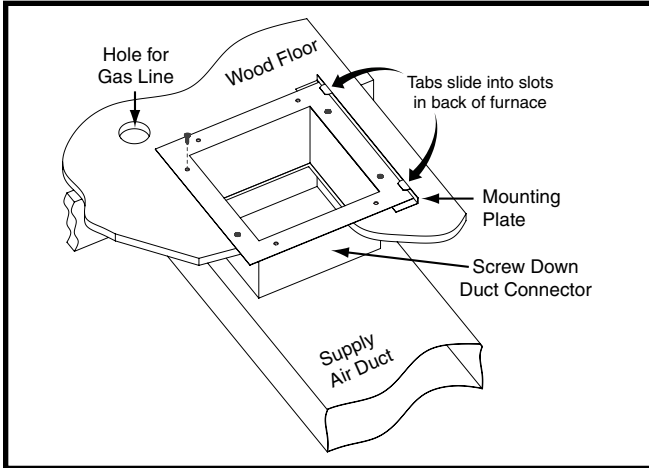

Figure 14. Screw-Down Duct Connector
1. Apply a bead of caulking, mastic, or other approved sealant around bottom side of 1/2" flange and restrictor plate (when applicable). See Figure 14